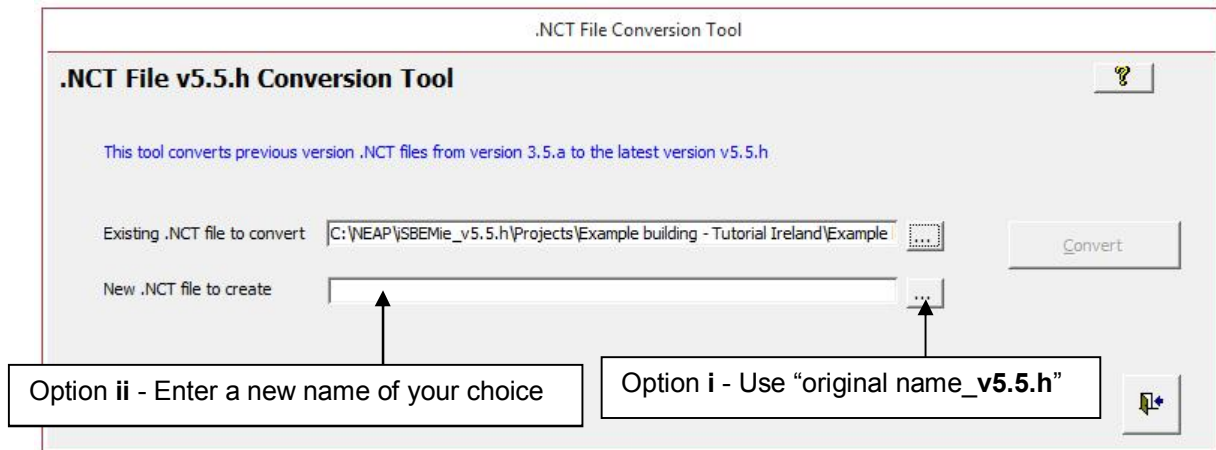

Figure 19: Naming the new file
- i. Click on the button shown in Figure 19. This opens a dialogue box (the same as in stage 2). Re-select the file you are converting and click on 'Save'. The new file will automatically be given the name: "original file name_v5.5.h.nct". The original file will not be over-written by the conversion tool, and you should keep it for future reference.
- ii. If you want to give the converted file a new name of your own, type a new name and its full path into the field (shown in Figure 19).